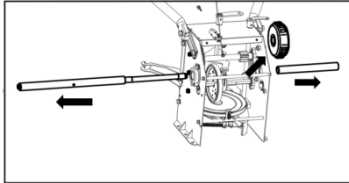

Figure 25
3. Pull out long and short drive shafts,remove the differential. See Figure 25.
4. Pull out long and short drive shafts, remove the differential. See Figure 25.